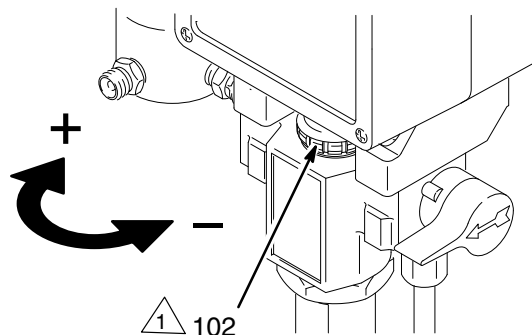

Fig. 10
1. **Check the packing nut/wet-cup daily (102).** Relieve pressure first. Keep the wet-cup 1/3 full of TSL at all times to help prevent fluid buildup on the piston rod and premature wear of packings.
2. **Tighten the packing nut/wet-cup (102) just enough to stop leakage.** Over-tightening causes binding and excessive packing wear. Use a round punch or brass rod and a light hammer to adjust the nut. See Fig. 10.